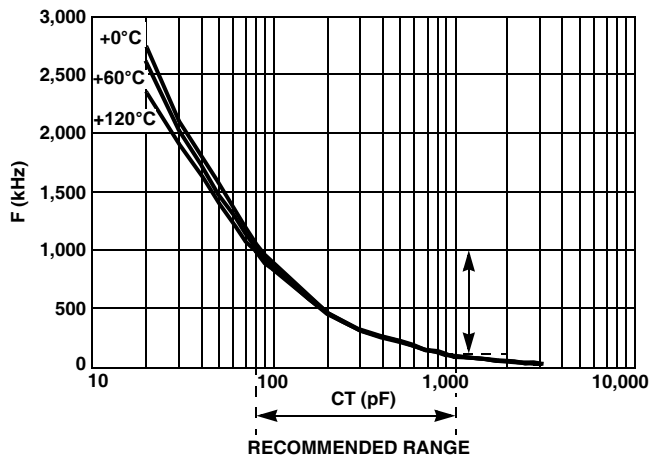

FIGURE 1. CT vs FREQUENCY
- This free-running oscillator is set by two external components, as shown in Figure 2. A capacitor at CT is charged and discharged with two equal constant current sources and fed into a window comparator to set the clock frequency. A resistor at RD sets the clock dead time. RD and CT should be tied to the VSS pin on their other ends as close as possible. The corresponding CT for a particular frequency can be selected from Figure 1.